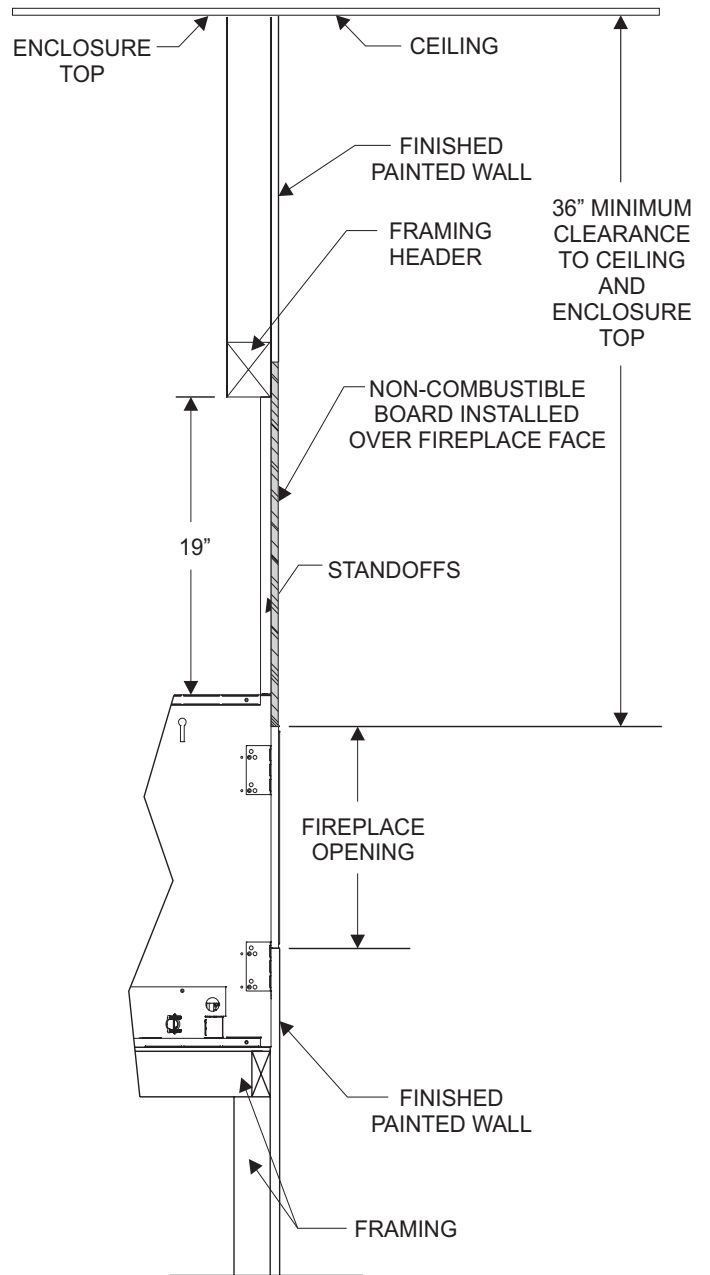

**Figure 44**
- Screws are allowed in framing and top mounting brackets. No screws are allowed into the fireplace. **See Figure 44.**